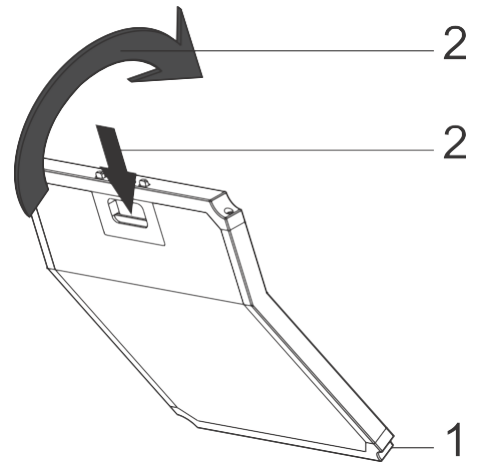

Fig. 6: Active Carbon Filter
3. The carbon filter is attached to this square motor casing in a similar action to the aluminium grease filter that you have just removed. Locate the bottom of the carbon filter in the square motor casing. Press on the finger tab to open the catch and then carefully press it home (Fig. 6).